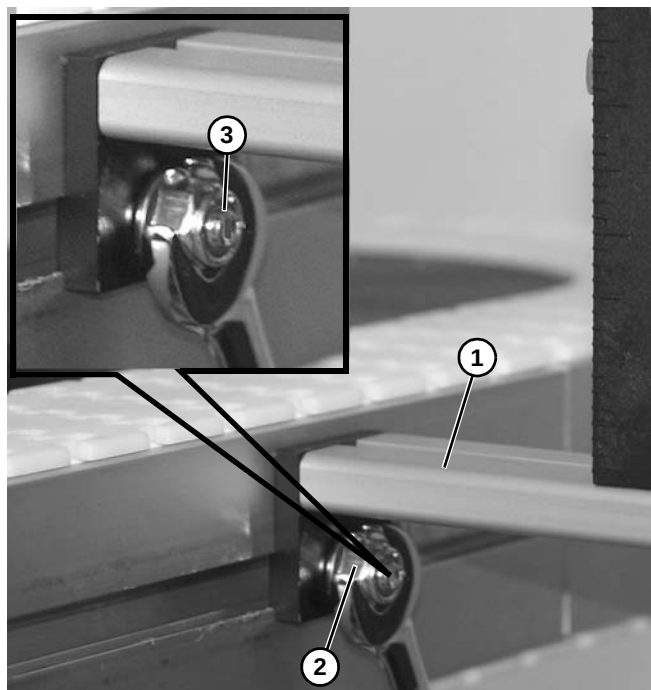

Figure 42
2. Tighten stud on guiding assembly (Figure 42, item 1) to conveyor with nut (Figure 42, item 2) on stud.
Be certain that slot (Figure 42, item 3) is close to vertical when finished tightening nut.
3. Tighten nuts (Figure 42, item 2).